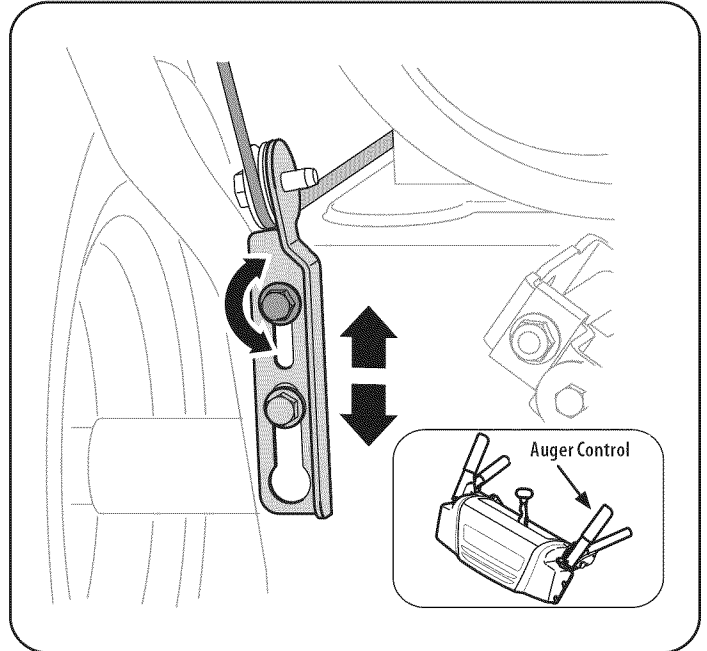

Figure 14
1. The auger control is located on the left handle. See Figure 14 inset. When the auger control is released and in the disengaged “up” position, the cable should have very little slack. It should NOT be tight.
4. Allow the auger to remain engaged for approximately ten (10) seconds before releasing the auger control. Repeat this several times.
7. To readjust the control cable, loosen the upper hex bolt on the auger cable bracket. See Figure 14.